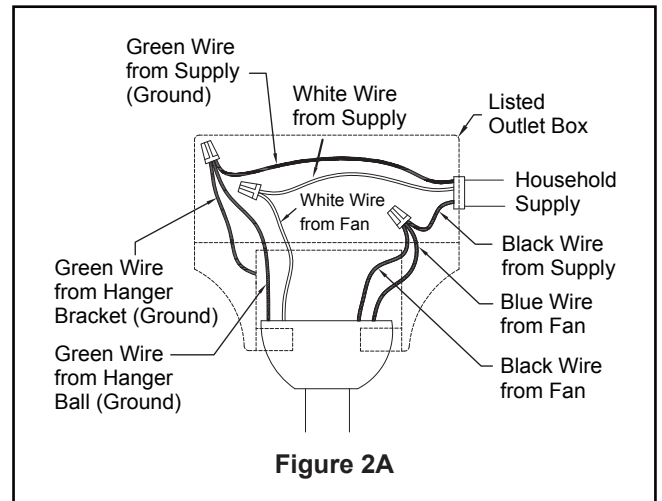

Figure 2A
1. Connect the green grounding lead from the downrod and the green grounding lead from the hanger bracket to the supply grounding conductor (this may be a bare wire or wire with green colored insulation). Securely connect wires with wire connector. Securely connect the white fan motor wire to the white supply (neutral) wire using wire connector. Securely connect the black fan motor wire and blue wire to the black supply wire using wire connector. (Figure 2A)